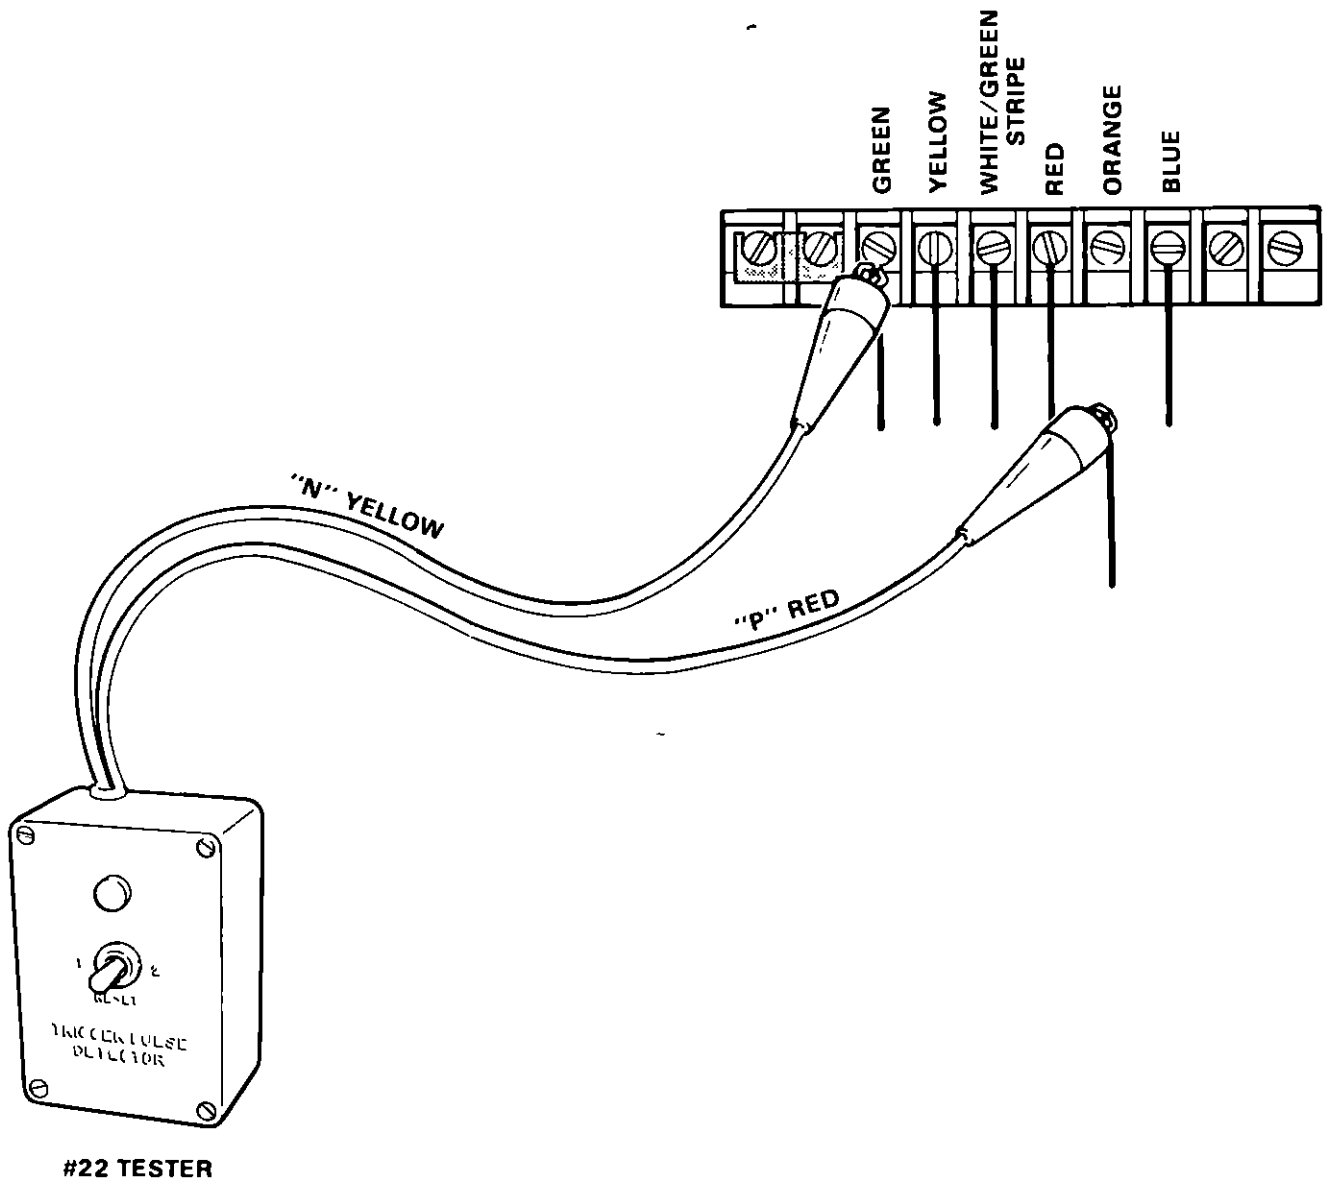

Figure 8
- 2 Connect "P" lead (red) of #22 Tester to orange wire, Figure 8
- 3 Connect "N" lead (yellow) of #22 Tester to green wire terminal on terminal block, Figure 8